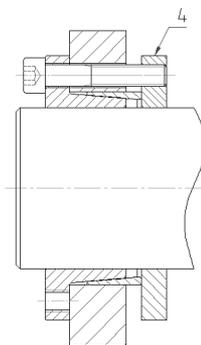

Fig. 2
- Application type B – axially fixed hub (fig. 2). The hub must be located in contact with flange of inner ring item [1]. Rear flange item [4] is not supplied along with locking assembly. Application type B requires longer screws than those supplied with locking assembly. Transmissible torque and contact pressures = 1 x values on catalog.